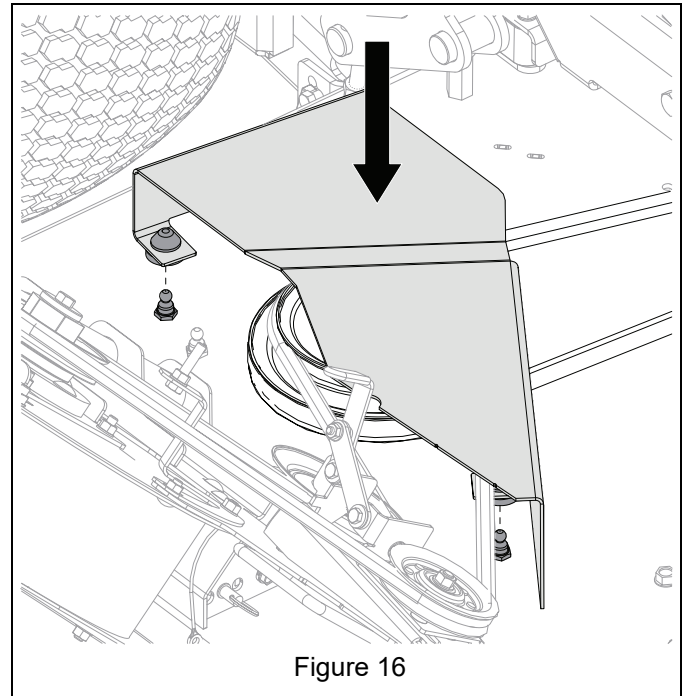

Figure 16
21. Install belt cover. See Figure 16.